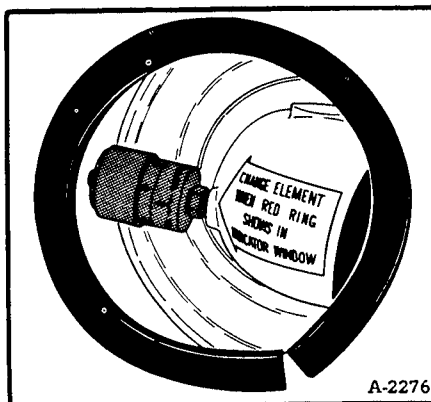

Fig. 1-17 Filter Condition Indicator
(2) Install new element carefully and reassemble.
(3) Press in button, located at bottom of condition indicator, to retract red ring from sight window (Fig. 1-17).